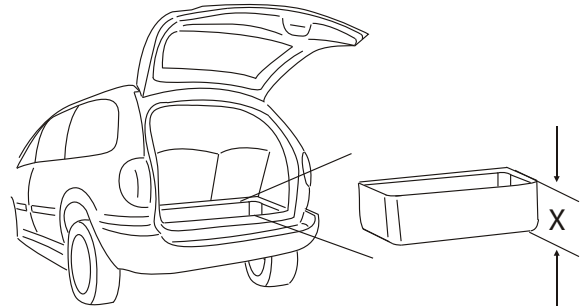

Figure 4-26
3. Measure the height of the well up to the top of door threshold. *See Figure 4-26.*